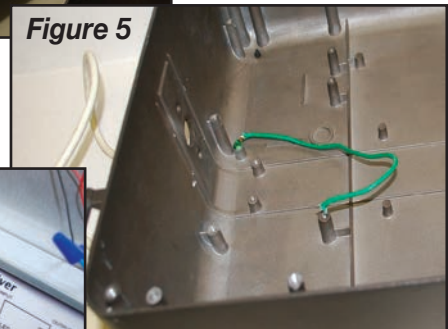
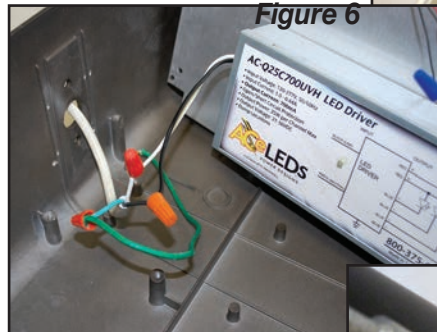

Figure 5
Figure 6
- 5) Attach the original ground wire to the ballast boss using the original ground screw. See FIGURE 5. Next attach branch circuit ground lead to case ground wire using wire nut from original wiring. Next attach branch circuit black wire to driver black wire using wire nut from original wiring. Finally attach white branch circuit wire to white driver wire using wire nut from original wiring. When completed, wiring should be as shown in FIGURE 6.